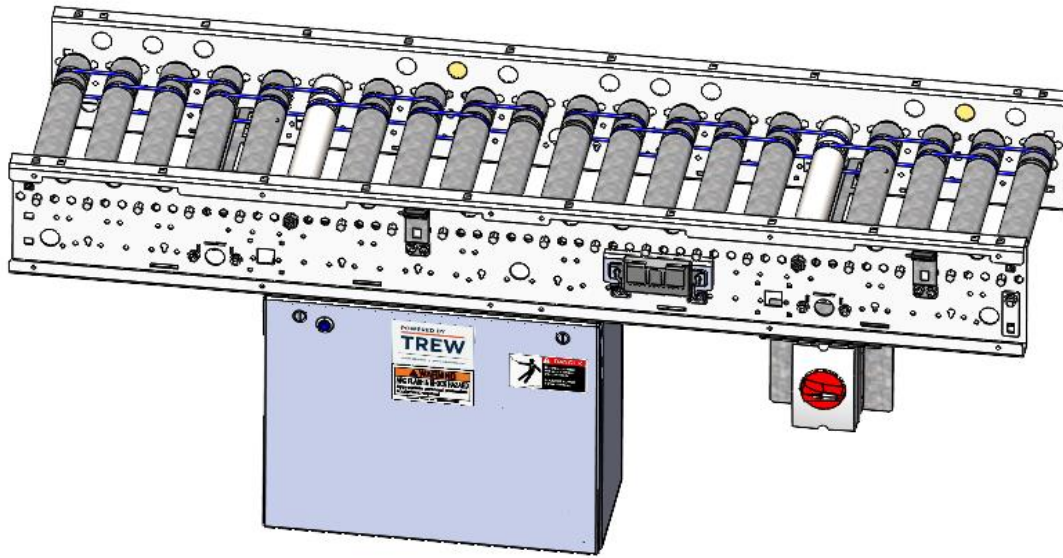

Figure 39: Power Module
The 1500 Series Conveyor uses Power Module components through the conveying system to supply power to the MDR rollers and other electronic equipment. These Power Supply Enclosure convert the buildings incoming Alternating Current (AC) power to DC power and can be seen in Figure 39. Other relevant details of various module components can be seen in Table 6.